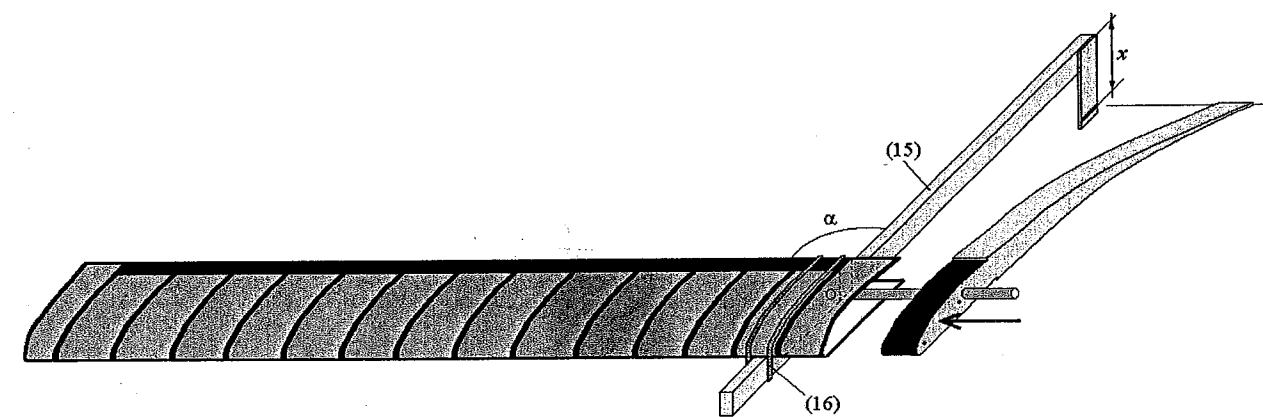

Figure 7. Assemblage of the Rib at the Junction to the Fuselage
For the assemblage of the end rib, an auxiliary device shall be built (15) to be assembled with the flexible rubber (16) at the lower side of the leading edge „D” box that will do such extrapolation. This device will allow for a correct assemblage by the alignment of the sign marked at the „x” distance with the rib tail. Concomittantly to this device, a template shall be used, to verify with it the  $\alpha$  angle between spar and end rib (figure 7), that will be stuck by means of epoxy resin over a 5 minute polymerization time duration.
Le profil choisi pour l'aile sera à une distance connue "x" au-dessus de la ligne d'intrados du D-box, voir fig.7.